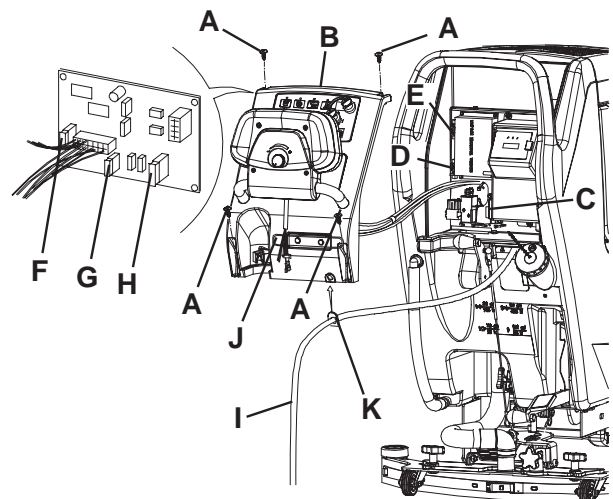

Figure 10
1. Disconnect the battery connector (12).
2. Move aside the recovery water drain hose (16).
3. Remove the battery charger cable (I, Fig. 10), if equipped, from the cable holder (J).
4. Remove the screws (A) and carefully move aside the panel (B) by disengaging the grommet (K) from its housing on the panel (B).
- (C) Brush deck fuse F1: (40 A)
- (D) Vacuum system fuse F2: (30 A)
- (E) Drive system fuse F3: (30 A) (*)
- (F) Signal circuits fuse F4: (3 A)
- (G) Brush/pad-holder release fuse F5: (20 A) (*)
- (H) Pump fuse F6: (3 A) (*)